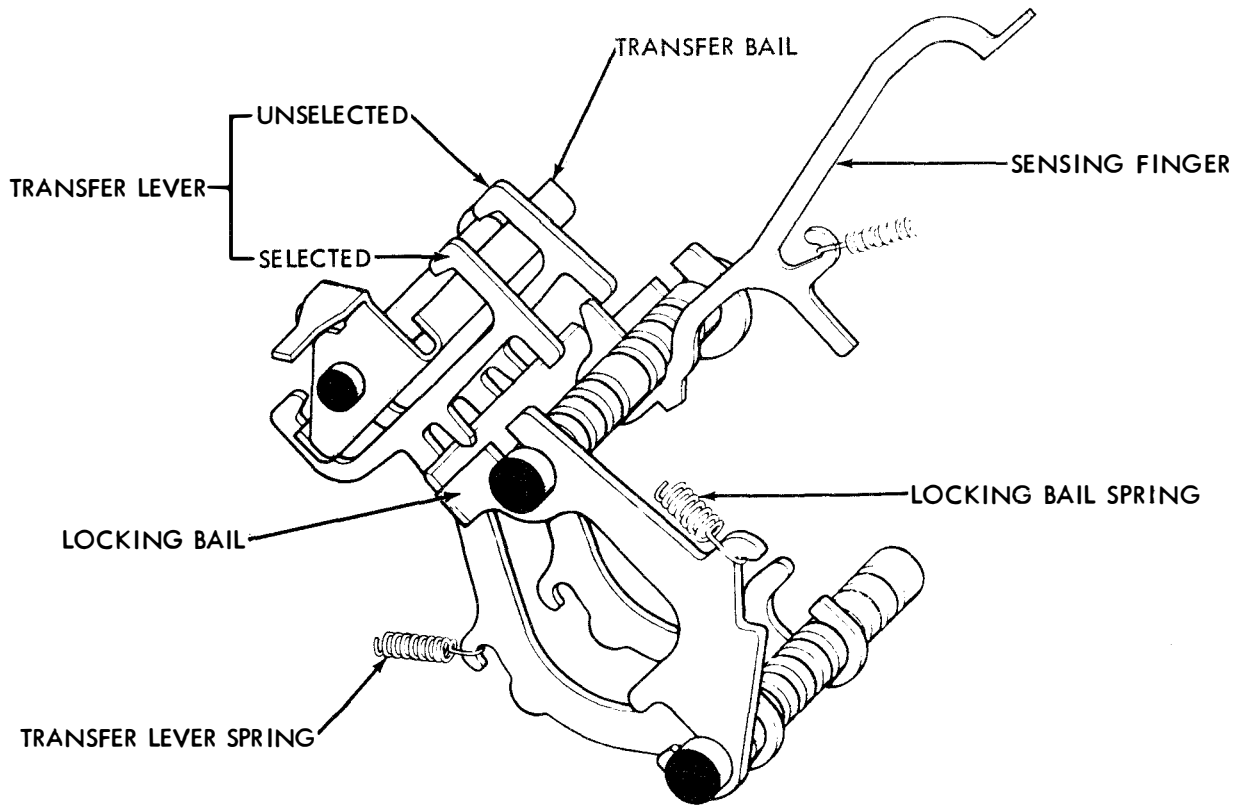

Figure 13 - Locking Bail and Transfer Lever Mechanisms
2.12 As the cam sleeve continues its rotation, the high part of the locking bail cam moves away from the locking bail and permits the locking bail to be pulled upward by its spring. In its upward travel, the locking blade of the bail is positioned between the lower extensions of the selected transfer levers and locks them in position. Figure 13.